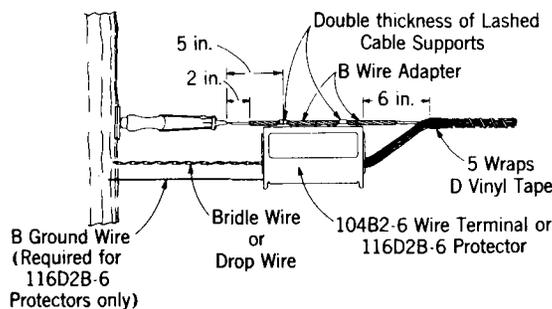
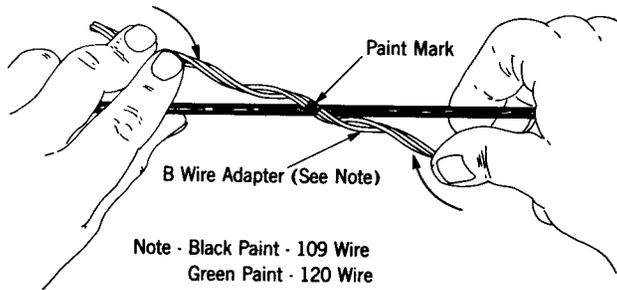

Fig. 7 — Multiple Line Wire Deadend
Fig. 9 – Installation of B Wire Adapter
3.01 The 104B2-6 Wire Terminal or 116D2B-6 Protector can be placed on the insulated support wire. At deadend poles, this can be accomplished by using two B Wire Adapters and two lashed cable supports as shown in Fig. 7 and described in 3.03.
(1) Place the 3-wire set first, starting at the center which is marked by paint, as shown in Fig. 9. Place the 3-wire set (gauge by eye) on the support wire so that it is centered at the terminal clamp nearest the pole (see Fig. 7). Wrap the set so it is spiraled around the support wire from the center out to the ends in each direction at once using the
(b) Start the second B Wire Adapter on the support wire with the paint mark about 3 inches from the end of the first B Wire Adapter so that it is centered at the far terminal clamp. (See Fig. 7.)